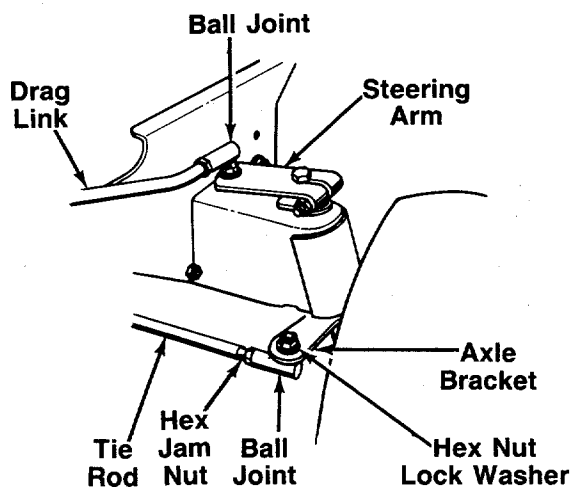

FIGURE 20.
1. Remove the hex nut and lock washer, and drop the end of the tie rod from the axle bracket. See figure 20.
To take off the drag link, remove the nuts and lock washers holding the ball joint to the steering gear and right front axle bracket. See figure 20.